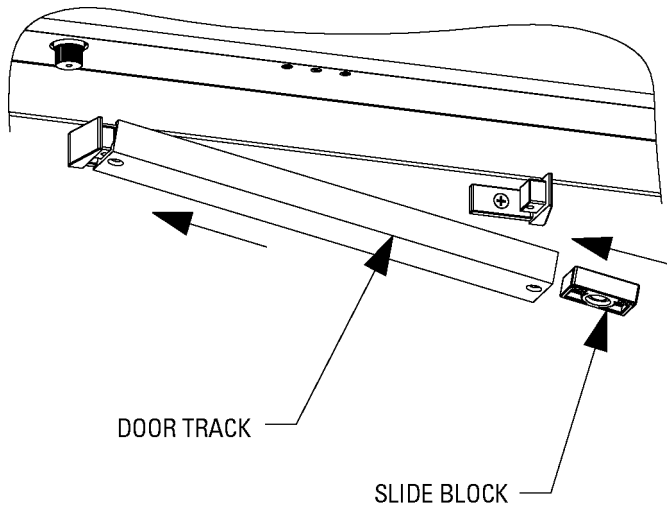

Fig. 18
9. Slide one end of the track onto the track bracket as shown in Fig. 18.